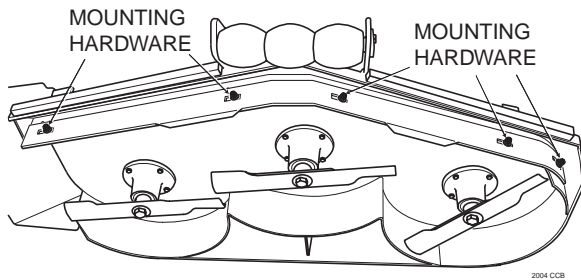

Figure 5. Custom-Cut Baffle
1. Remove the hardware securing the Custom-Cut Baffle to the cutter deck (See Figure 5, Page 12).